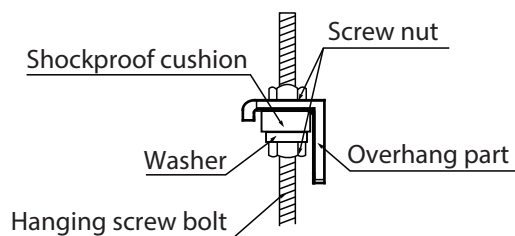

Fig. 4.11
- Mount the indoor unit onto the hanging screw bolts with a block. Position the indoor unit flat using a level indicator to prevent leaks. (See Fig. 4.11).